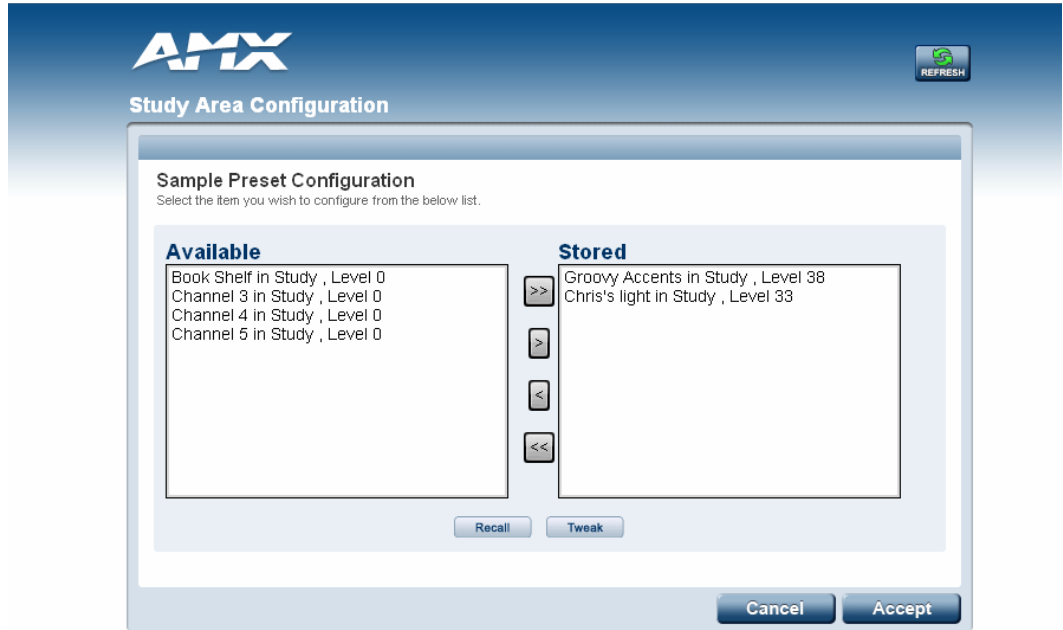

FIG. 33 Preset Configuration Page
5. To configure the preset, click the preset's **Configure** button to open the *Preset Configuration* page (FIG. 33).
- Click the **Configure** button to open the *New Preset Configuration* page (FIG. 33).